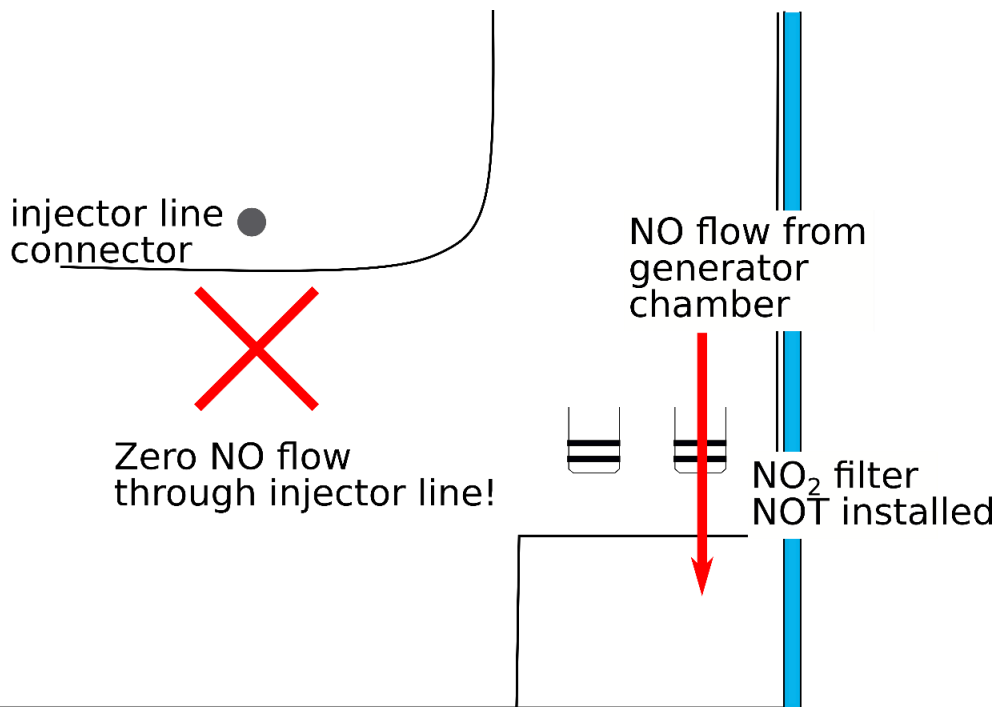

Figure 29: Zero NO Flow Through the NO Injector Line when a NO₂ Filter Is NOT Installed in the LungFit PH
- The LungFit PH requires a preventative maintenance (PM) check every 1000 hours of operational use, defined as the accumulated time when the device is actively generating nitric oxide.
- Note that no nitric oxide will be delivered to the ventilator circuit when the NO₂ filter is not installed in the LungFit PH (*see Figure 29*).